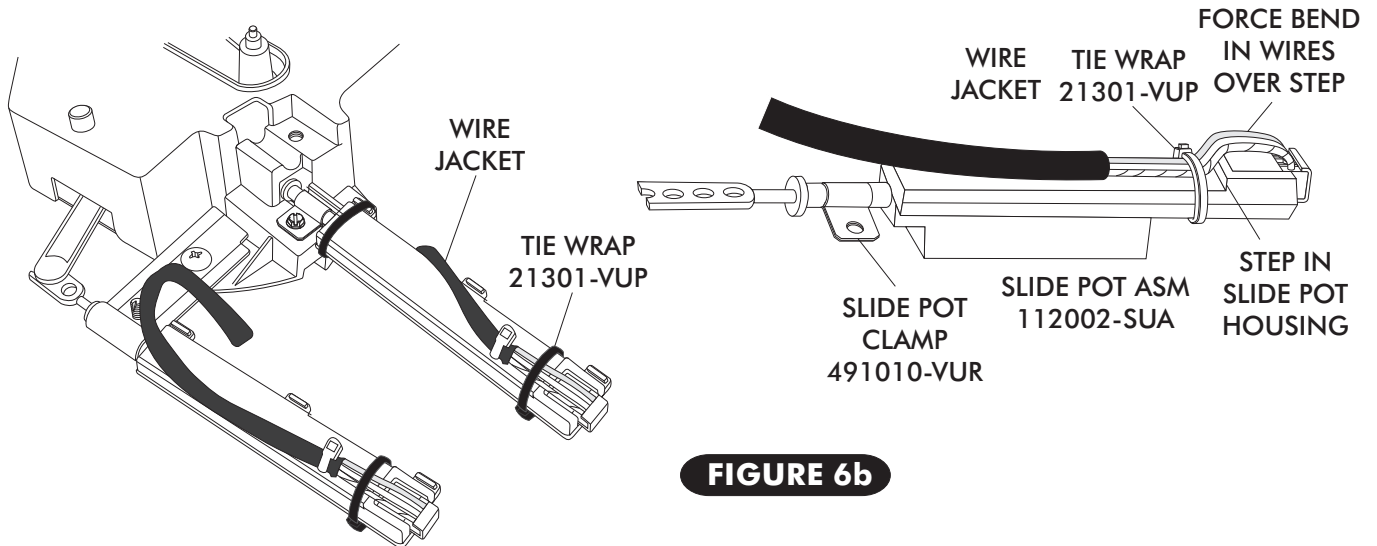

FIGURE 6b
- ONCE WIRES ARE CORRECTLY PLUGGED INTO SLIDE POT ASSEMBLY, SECURE WIRES TO THE SLIDE POT ASSEMBLY USING TIE WRAPS (SUPPLIED). SEE FIGURE 6b BELOW. THE TIE WRAP MUST BE LOCATED BETWEEN THE END OF THE WIRE JACKET AND THE STEP IN THE SLIDE POT HOUSING FORCING A BEND IN EACH WIRE AS THEY PASS OVER THE STEP IN SLIDE POT HOUSING. HEAD OF TIE WRAP MUST FALL ON EDGE OF HOUSING AS SHOWN TO REMAIN TIGHT. ENSURE THAT THE TIE WRAPS ARE SNUG ENOUGH THAT THE WIRES CAN NOT MOVE. SEE FIGURE 6b.